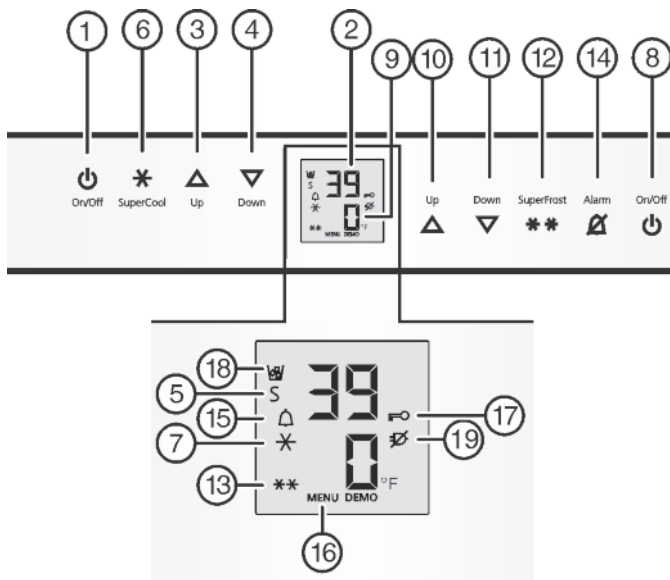

Fig. 3
- ▶ Press On/Off button, freezer compartment Fig. 3 (8).
- ▶ Press Fridge compartment On/Off button *Fig. 3 (1)*.
- ▶ Activate setting mode: Press SuperFrost button *Fig. 3 (12)* for about 5 seconds.
- ▷ The Menu symbol *Fig. 3 (16)* lights up.
- ▶ Using Freezer compartment Up button *Fig. 3 (10)*/ Freezer compartment Down button *Fig. 3 (11)* select °.
- ▶ To confirm: Briefly press SuperFrost button *Fig. 3 (12)*.
- ▶ Using Freezer compartment Up button *Fig. 3 (10)*/ Freezer compartment Down button *Fig. 3 (11)* select °F or °C.
- ▶ To exit setting mode: Press Freezer compartment On/Off button *Fig. 3 (8)*.
- ▶ Activate setting mode: press and hold the SuperFrost button *Fig. 3 (12)* for approximately 5 s.
- ▶ Using the Freezer compartment Up button *Fig. 3 (10)* or Freezer compartment Down button *Fig. 3 (11)*, select c.
- ▶ Press the SuperFrost button *Fig. 3 (12)* briefly to confirm.
- ▶ To switch on the child-proof lock, press the SuperFrost button *Fig. 3 (12)* briefly.
- ▷ The Child safety symbol *Fig. 3 (17)* lights up. c flashes on the display.
- ▶ To switch off the child-proof lock, press the SuperFrost button *Fig. 3 (12)* briefly.
- ▷ The Child safety symbol *Fig. 3 (17)* goes out. c flashes on the display.
- ▶ Deactivate setting mode: press the Freezer compartment On/Off button *Fig. 3 (8)*.
- ▶ Press Alarm button *Fig. 3 (14)*.
At the same time, the Alarm symbol *Fig. 3 (15)* will flash.
The audible warning automatically ceases, the Alarm symbol *Fig. 3 (15)* goes out, and the temperature display stops flashing when the temperature is cold enough again.